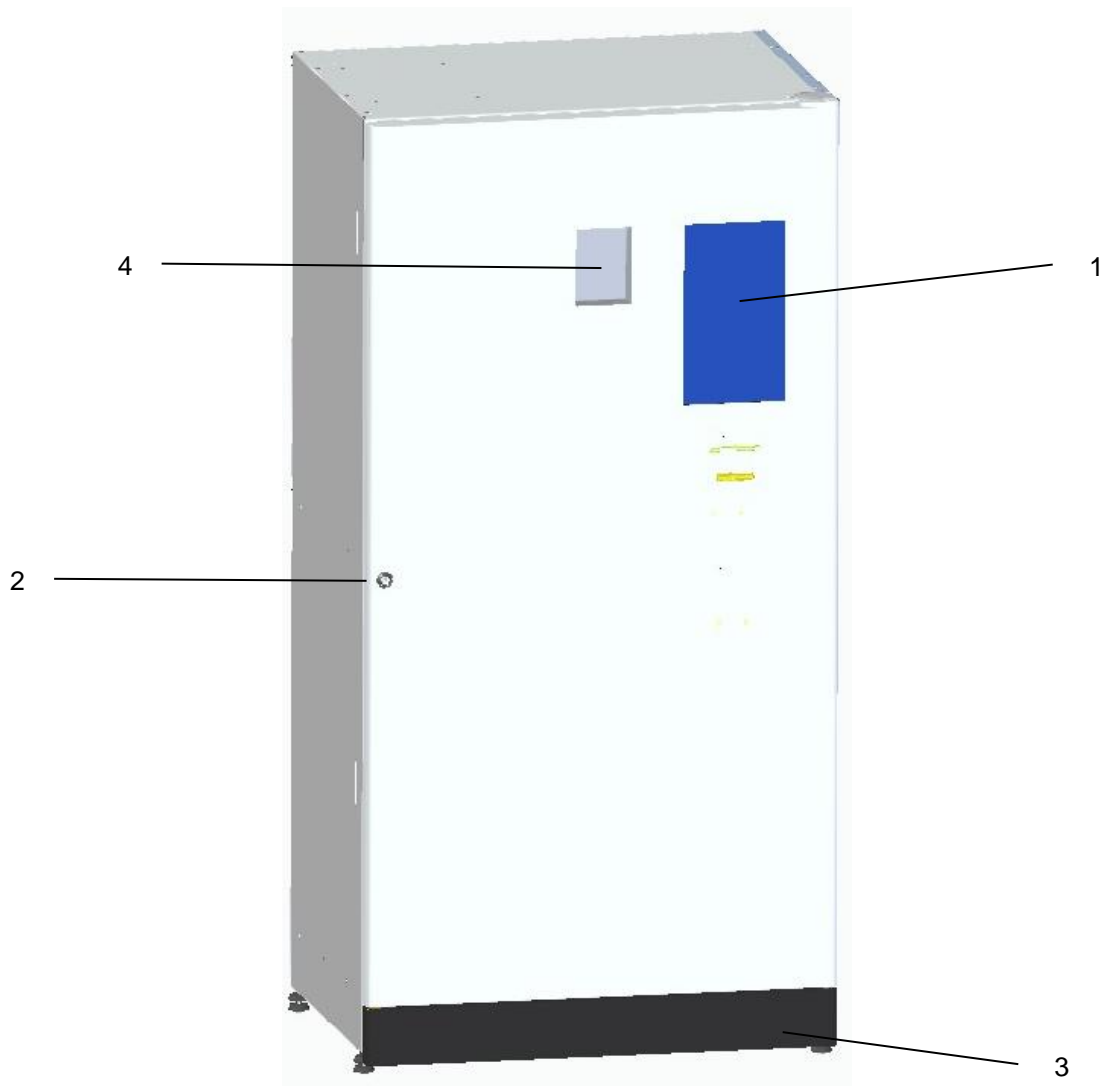

Fig. 3
2. The touchscreen display (ref. 1 fig. 3) comes on; wait until it reads: **"INSERT BOTTLE OR CAN"**.